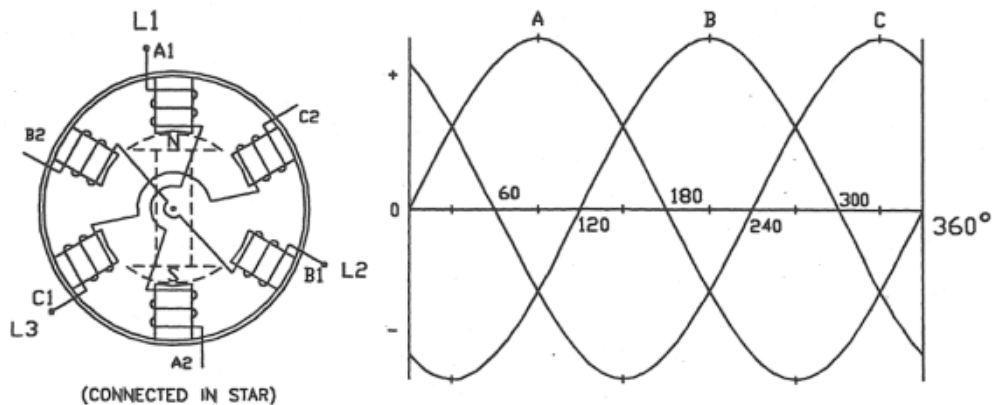

Figure 4 - Two pole three phase alternator output.
10. A sine curve of the output from the 2 pole three phase alternator for one revolution of the field is shown in Figure 4- this arrangement would give an output frequency of 50 Hz if the field was rotated at 3000 r/min. If the stationary armature winding was designed for 4 poles, each phase of the alternator would produce 2 cycles for one revolution, so 50 Hz would be obtained at 1500 r/min.